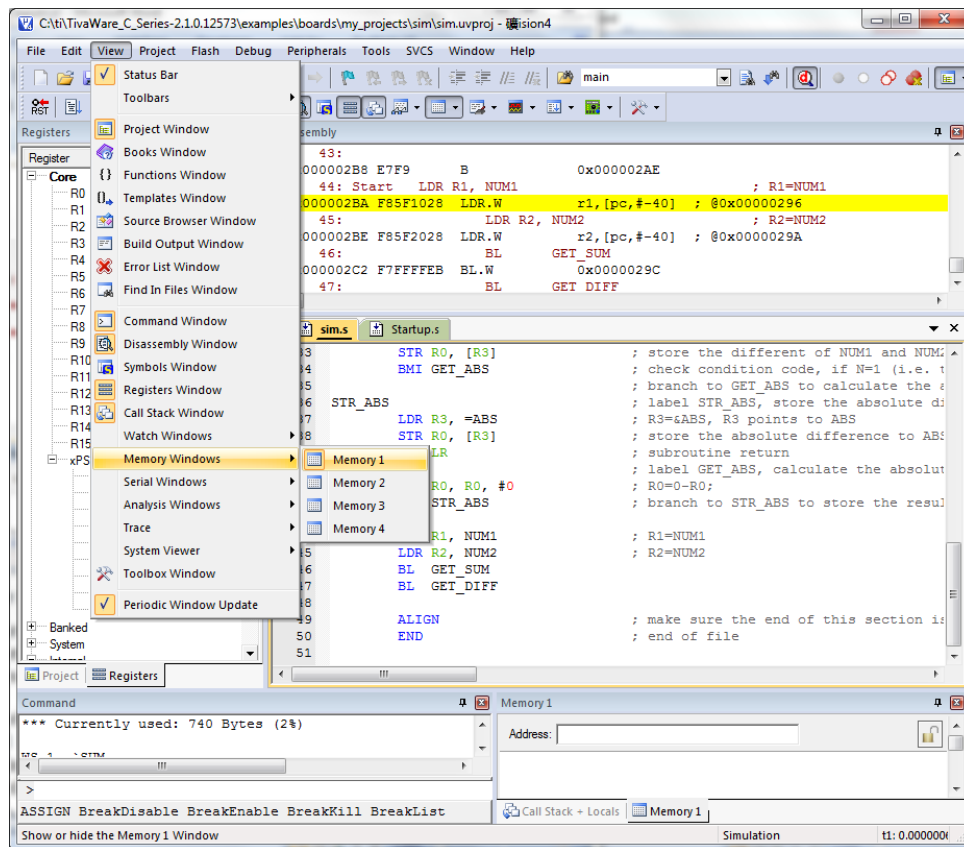

Figure 12
12. Memory Windows. The Memory windows show the content of memory areas. You can open a memory window by clicking View -> Memory Windows -> Memory 1 as shown in Figure 12. You can enter a memory address and view the content stored in that address. For example, the address of the 32-bit variable SUM in the sample program is 0x2000.0000 because SUM is the first variable defined in the RAM. If you enter 0x20000000 (don't forget type 0x) in the Memory 1 Window as shown in Figure 13, you will see the value of SUM stored in 0x20000000-0x20000003 is 00 00 00 00 at the beginning.